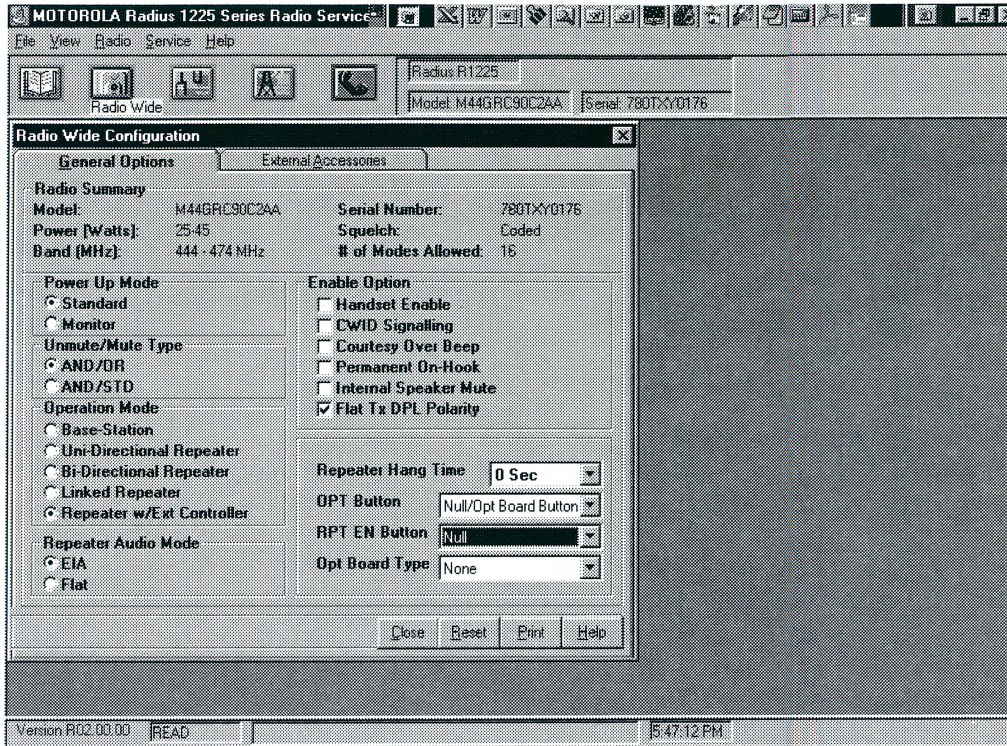

Fig. 2
4. Using Fig. 2 and 3 as a guide, select the options shown with your mouse.